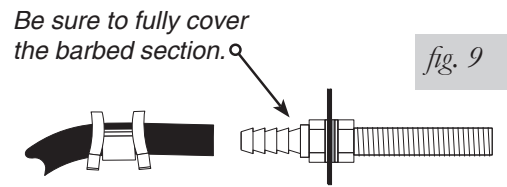

fig. 9
- Slide the air line clamp over the air line. Push the air line onto the fitting covering all barbs. Using pliers, slide the air line clamp forward until it fully covers the barbed section (fig. 9).
9. Slide a clamp onto the air line and push the air line over the fitting, covering all the barbs. With pliers slide the air line clamp forward until it fully covers the barbed section (see fig. 9).